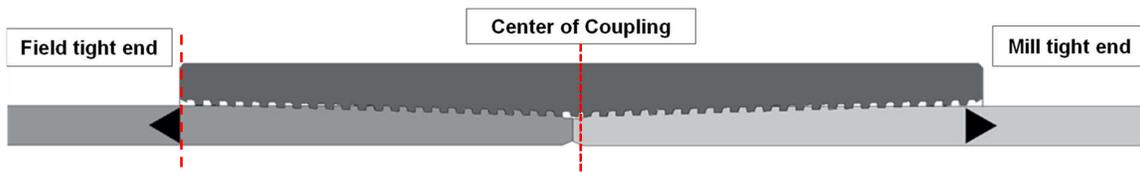

Figure.1 Correct Make-up Position
- The base of the 3/8” triangle stamp on the pipe body is aligned with the coupling face as Figure 1.